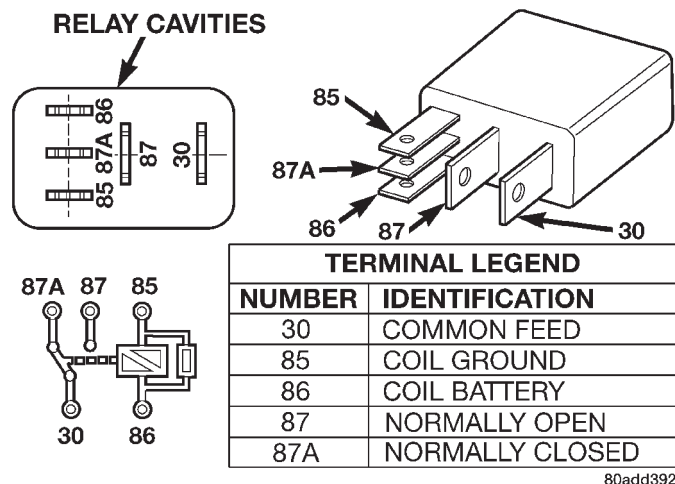

Fig. 12 Type-2 Relay
(14) If equipped with **type-2 relay** (Fig. 12), attach test leads from LCS adapter into PDC relay cavities number 30 and 87. For location of these cavities, refer to numbers stamped to bottom of relay (Fig. 12).